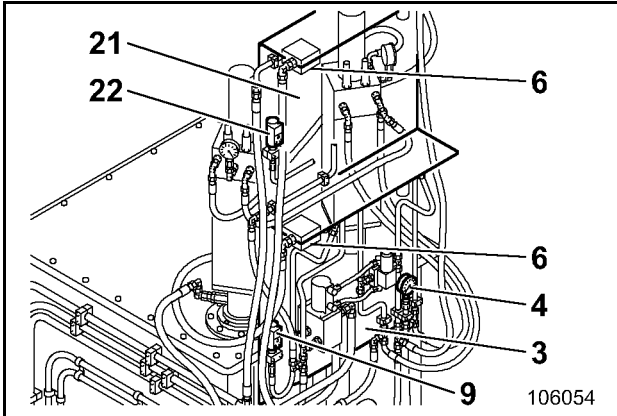

Fig. 3-124:
Check every week, whether the oil pressure indicated by pressure gauge (4, Fig. 3-124:) is 60 bars / 870psi (the pressure is depending on temperature and viscosity of the oil and may vary).
The greasing pressure for the superstructure is indicated by pressure gauge (9, Fig. 3-124:) and for the undercarriage by pressure gauge (22).